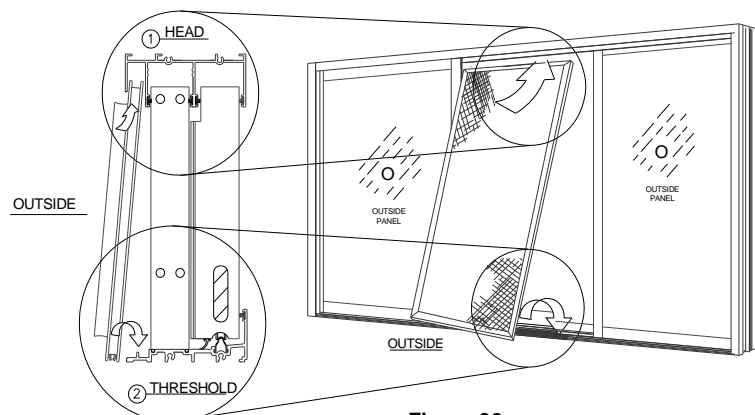

Figure 36:
8. Insert screen into the upper head channel. Push up and swing the bottom inward until screen is vertical, then lower screen down onto the track (Figure 36).